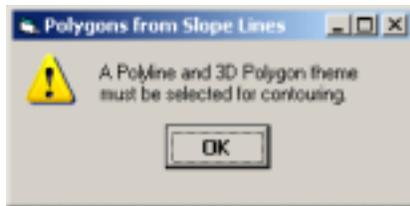
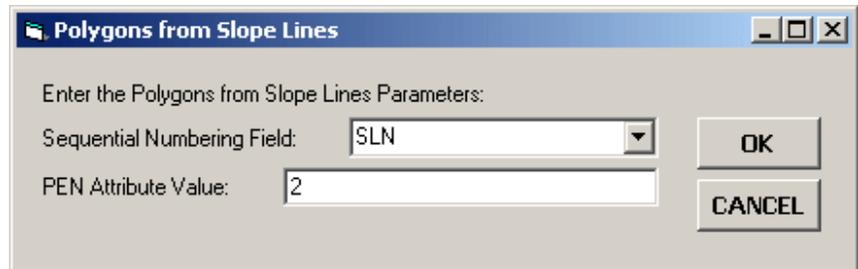

Figure 17
Figure 20
- **4** **Scroll** down in the {CEDRA-AVland-ContouringMenus} menu combo box, and **select** the [Polygons from Slope Lines] command. If the appropriate layers are not selected, one of the warning messages shown in Figures 17, 18 and 19 will be displayed. If the appropriate layers have been selected, the multi-input dialog box shown in Figure 20 will be displayed.